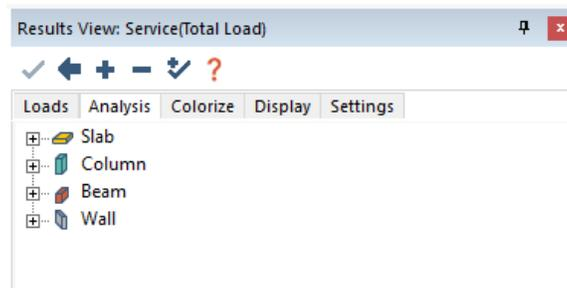

Figure 14-2
- Select **Yes** to save the solution. The *Results Browser* dialogue window will appear. See **FIGURE 14-2**.
- Select *Yes* to save the solution. The *Result Display Settings* dialogue window will appear. See **FIGURE 14-2**.